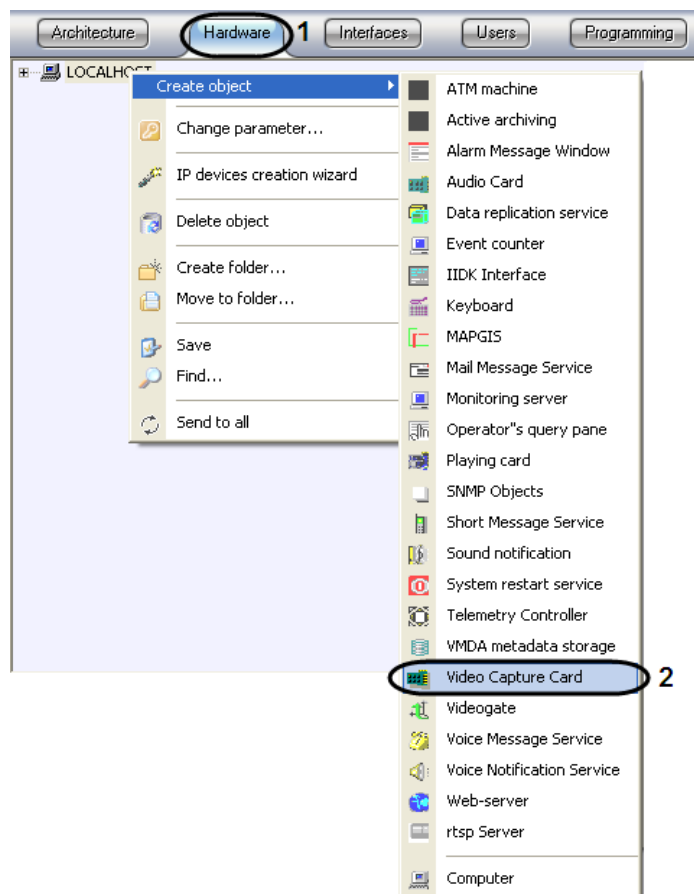

Figure 3.1-1 Context menu of the Computer object
1. Go to the **Hardware** tab in the **System settings** dialog box (Figure 3.1-1, 1).
2. Select **Create object** -> **Video capture card** in the context menu of the **Computer** object (Figure 3.1-1, 2).